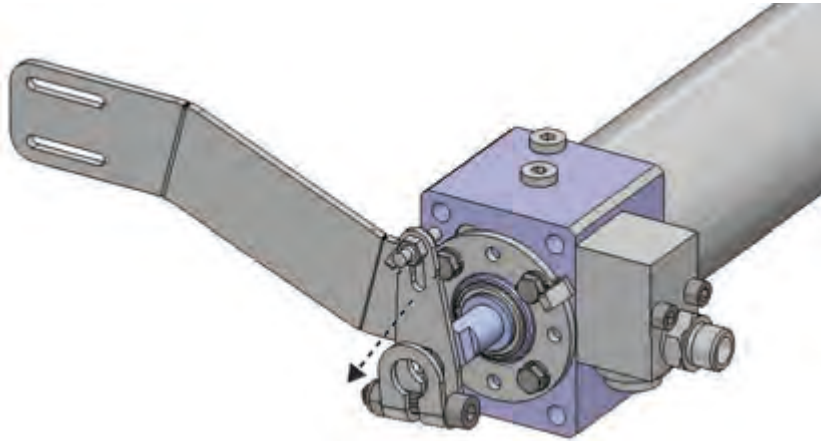

Figure 37. Removing the operating lever
2. Loosen the operating lever's fastening screw and pull the lever off the shaft (figure 37).